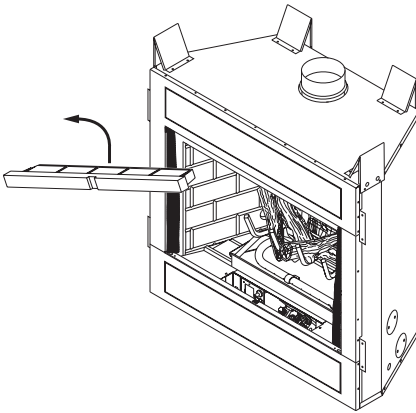

Figure 12 - Removing Front Refractory Access Panel (P325B/VP325 Model Shown)
1. Remove front refractory access panel by lifting up and angling out firebox opening (see Figure 12, page 12).
1. Remove front refractory access panel by lifting up and angling out of the fire-box opening (see Figure 12) to expose controls.